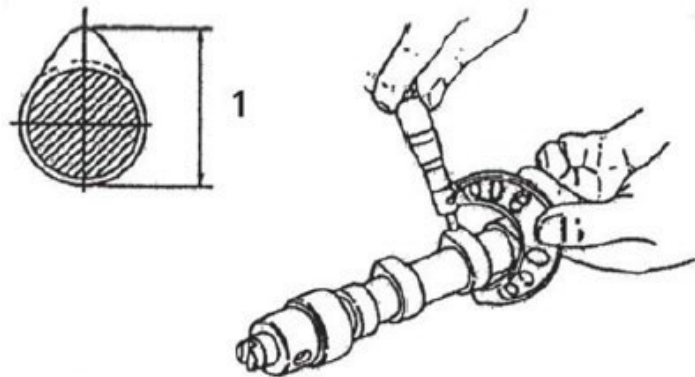

Figure 117.
3. Measure the height of each lobe (Figure 117, Item 1). See the *Camshaft Specifications Chart*.